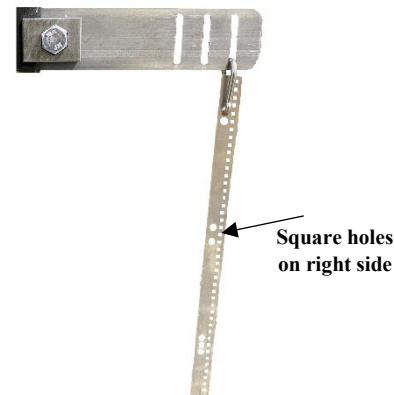

Figure 14: Top Rail Fastening Plate with Carabiner and Tape
- c. Ensure the tape is correctly oriented with the square holes on the right side of the tape. See Figure 14